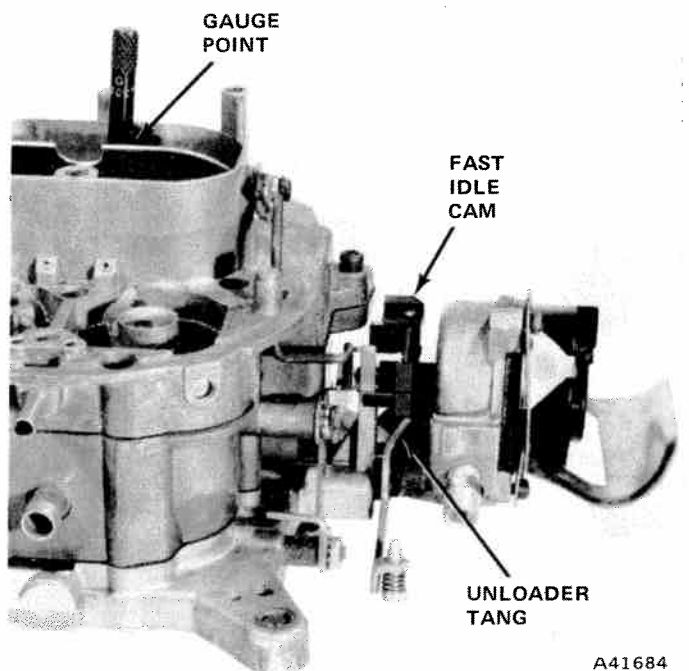

Fig. 4-74 Unloader Adjustment
(2) Measure the clearance between the lower edge of choke valve and air horn wall. Refer to Carburetor Service Specifications for correct setting.
(3) Adjust by bending the unloader tang which contacts the fast idle cam as shown in figure 4-74. Bend toward the cam to increase the clearance and away from the cam to decrease the clearance.
(4) Operate the throttle and check unloader tang to make sure it does not bind, contact, or stick on any part of carburetor casting or linkage. After carburetor in-